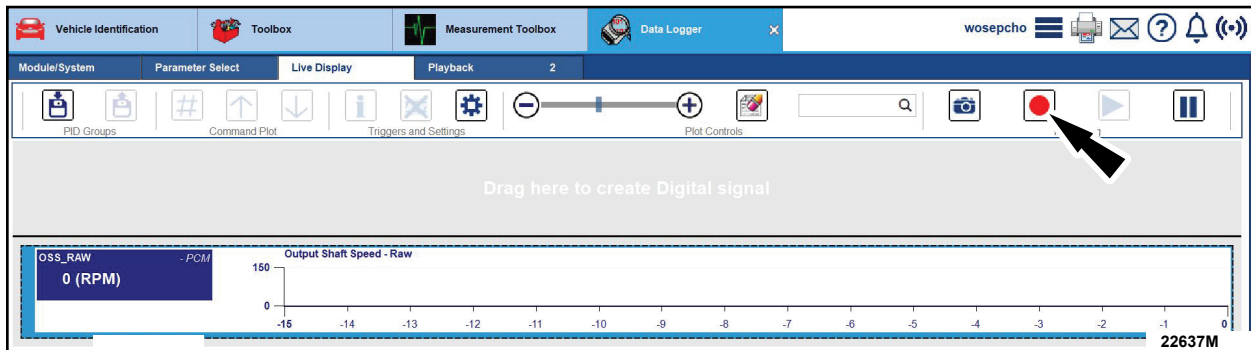

**FIGURE 6**
21. Make sure the Duration is set to 15, with Pre set to 0 and Post set to 15. See Figure 6.